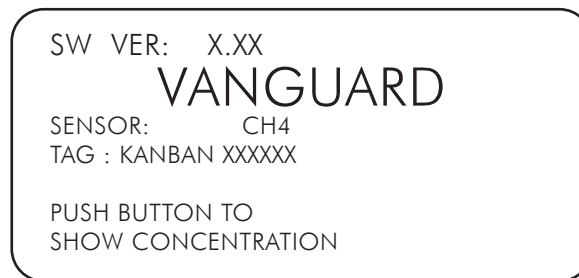

Figure 8
- Once activation is done, the front panel display will display the device name, HART long tag, and the software version, along with an instruction to push button to show gas concentration (see Figure 8).
9. Once the sensor initialization process is complete, a “Sensor Active Calibrate New Sensors” message will show (see Figure 14) before automatically returning to home screen (Figure 8).